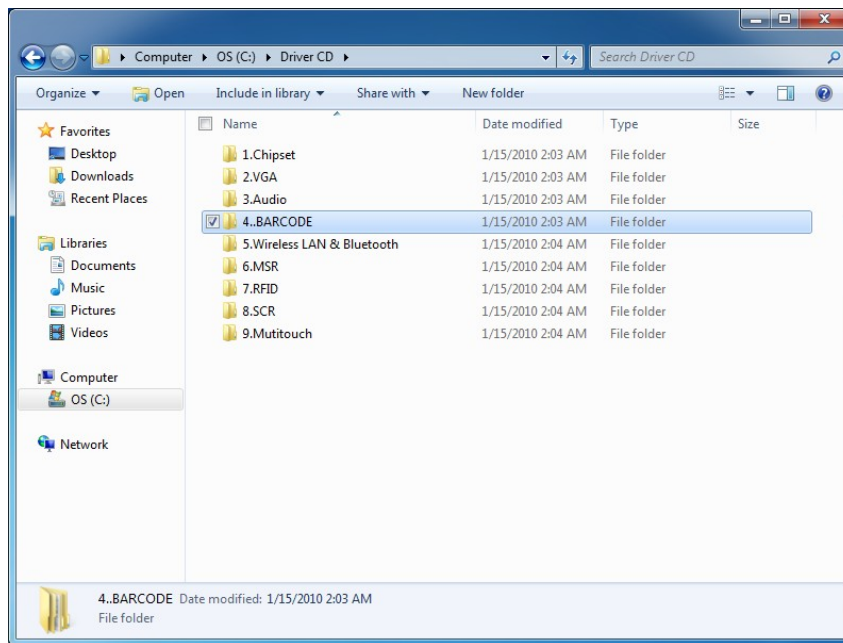

Figure 3-11: Barcode Scanner Program Location
Step 2: Install EasySet barcode scanner program. Select **4.BARCODE** from the list of the driver CD as shown in **Figure 3-11**.